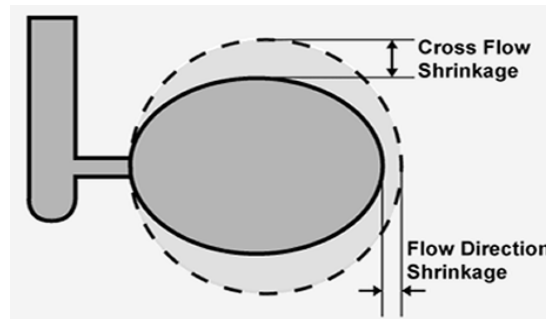
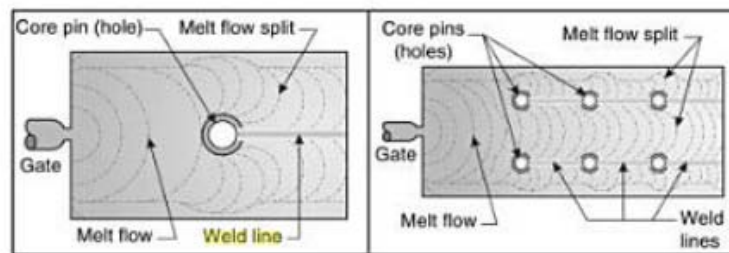

Figure 2: Shrinkage in Injection Molding
Figure 3: Weld line formation
- [b] Based on Figure 2 and Figure 3, give your comments on the root cause and remedies of the defects.